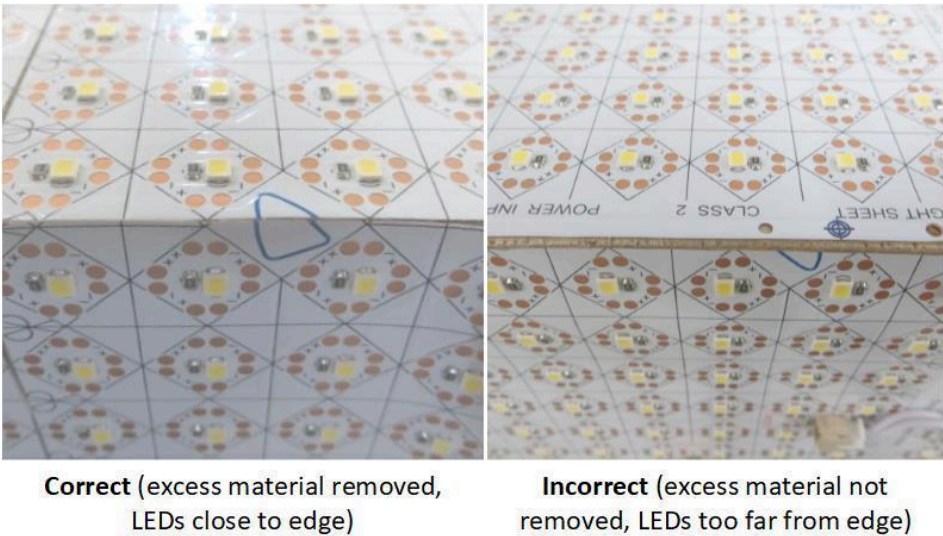

Figure 4
- a. NOTE: Each Matrix sheet has an outer strip of material that must be removed if placed flush to a straight edge. If this material is not removed, LEDs will be too far offset from the edge and will cause a shadow to appear. **See Figure 4.**